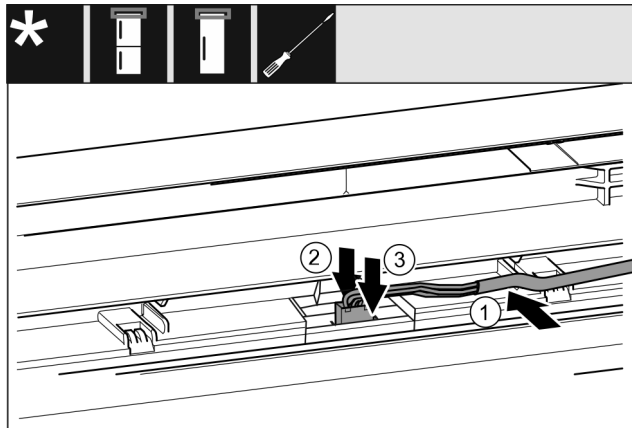

Fig. 49 Fridge/freezer combinations/freezers/cooling units\*
- ▶ Carefully insert the cable Fig. 49 (1) into the guide in the top door.\*
- ▶ Press the latching tab Fig. 49 (2) towards the back.\*
- ▶ Snap in the plug Fig. 49 (3).\*